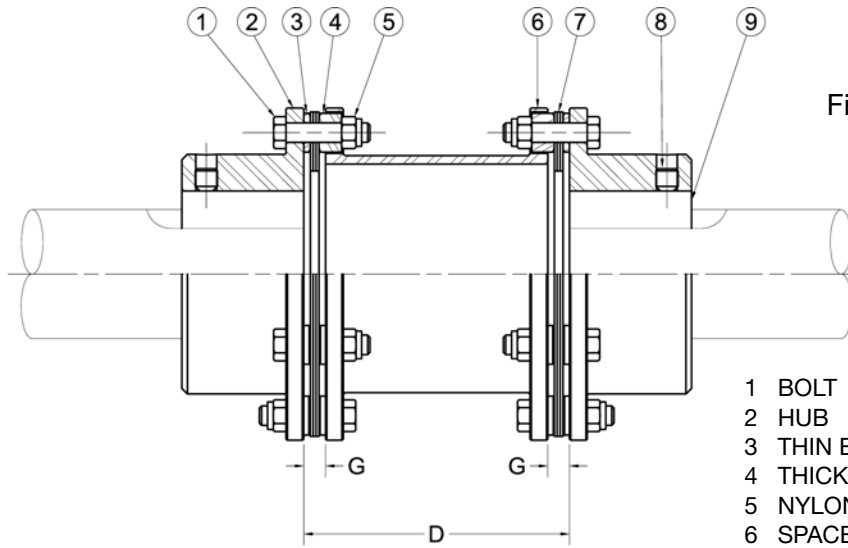

Figure 1
1. Move the equipment to be connected into position. Set the gap between the hub faces to the required distance between shaft ends, “D” dimension in Figure 1. Set the average gap between flanges to the “G” dimension shown in Table 1 for the proper size coupling.